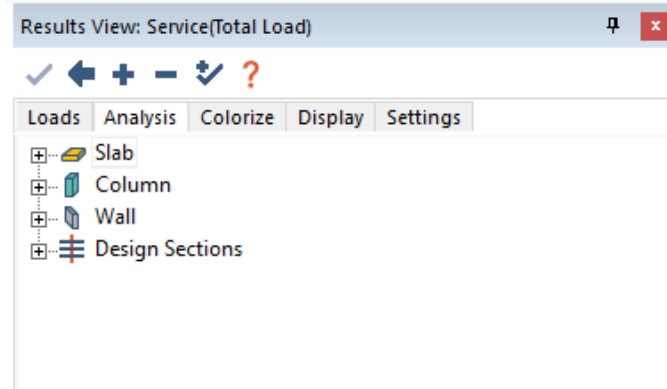

FIGURE 8-47
- Click on the *Analysis* tab of the *Results Browser* to bring up the window shown in **FIGURE 8-47**.